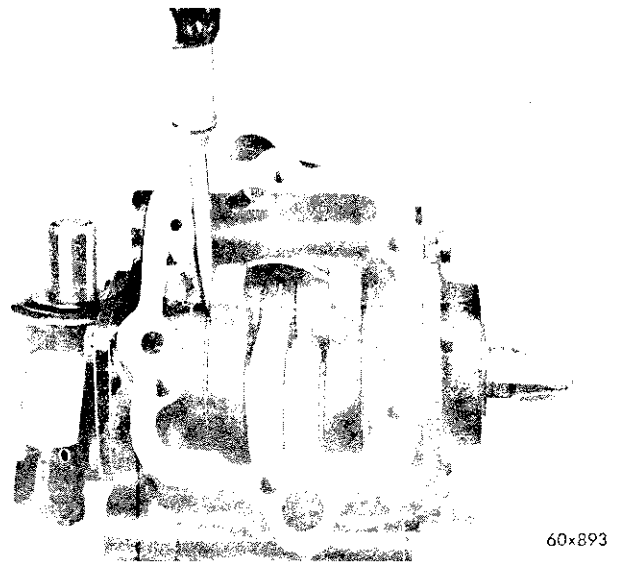

Fig. 61—Checking Crankshaft Axial Movement
(3) Rotate crankshaft to engage oil pump shaft in crankshaft slot.
(4) Install gas seal and crankshaft bearing housing. Use suitable tool, as shown in Fig. 61, to assure free axial movement.
(5) Install pistons and connecting rods.
(6) After pistons and connecting rods are installed, turn crankshaft to check freeness. Shaft should turn without binding.
(7) Install oil sump, valve plates and cylinder heads.